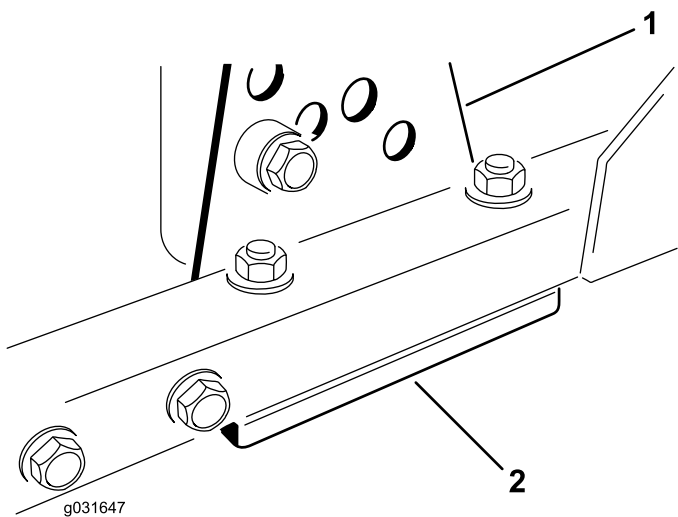

Figure 68
1. Remove the height-of-cut bracket (front, left, or right) from the deck frame (Figure 68).
2. Adjust the 1.5 mm (0.06 inch) shims and/or 0.7 mm (0.03 inch) shim between the deck frame and bracket to achieve the desired height of cut (Figure 68).
3. Install the height-of-cut bracket to the deck frame with the remaining shims assembled below the height-of-cut bracket (Figure 68).